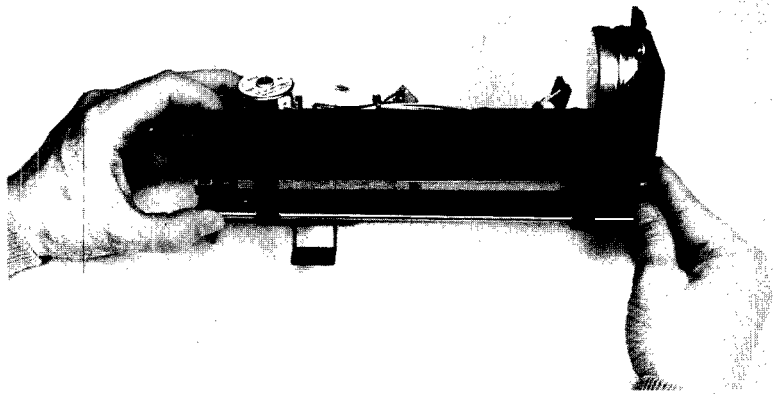

Figure 11-2. Bail Arm Adjustment, Right Side
1. Apply downward pressure on the left side of the bail arm assembly while lifting the right side of the bail, as shown in Figure 11-2. The right pinch roller should lift a short distance (approximately 1/8 to 1/4 inch) off the grit wheel before meeting heavy resistance.